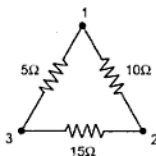

Fig. 1.50
► **Example 1.19 :** Convert the given Delta in the Fig. 1.50 into equivalent Star.
Solution : Its equivalent star is as shown in the Fig. 1.50(a).